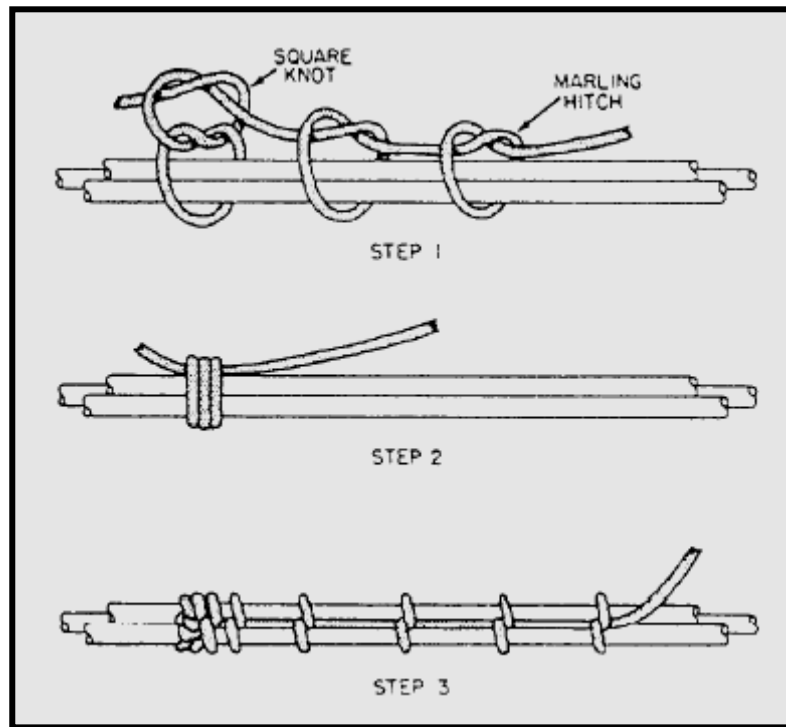

Figure 2-61.—Applying single lace.
**SINGLE LACE.**— Single lace may be started with a square knot and at least two marling hitches drawn tight. Details of the square knot and the marling hitch are shown in figure 2-61. Do not confuse the marling hitch with a half hitch. In the marling hitch, the end is passed over and under the strand (step 1). After forming the marling hitches, draw them tight against the square knot (step 2). The lace consists of a series of marling hitches evenly spaced at 1/2- to 1-inch intervals along the length of the group of conductors (step 3).